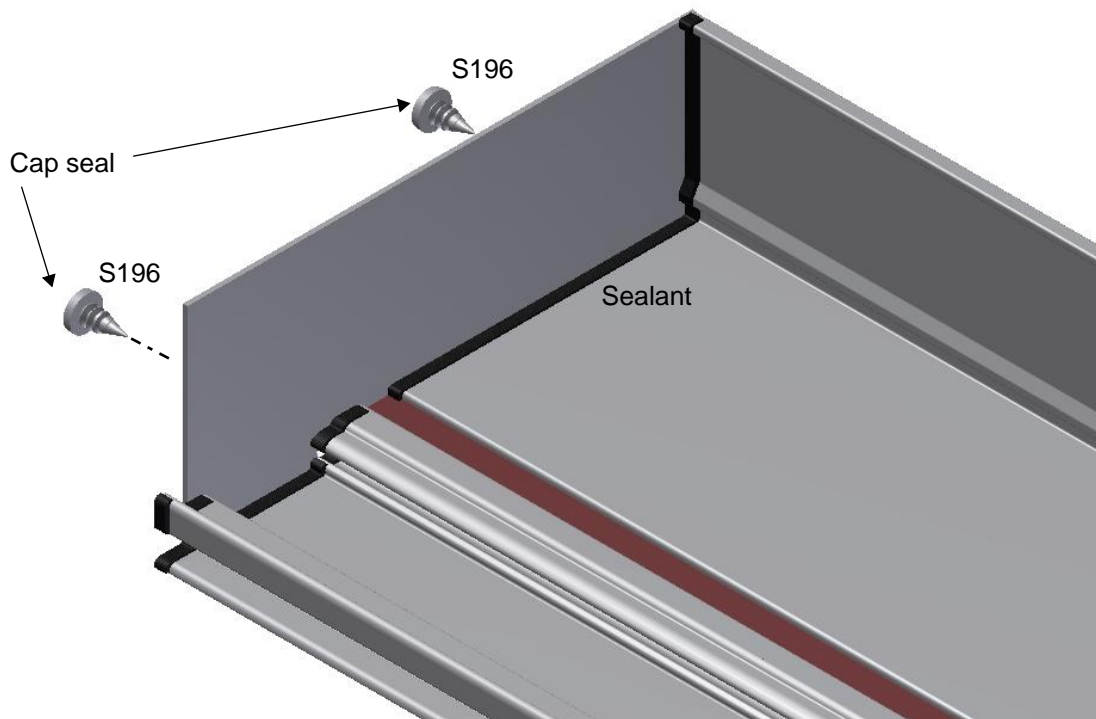

Figure 4: Attach an end dam to the end of the sill flashing at a masonry wall.
- At a wall, attach an end dam (P1153) to the end of the sill flashing with two S196 fasteners and seal the sill to the end dam as shown in Figure 4. Cap seal fastener heads.